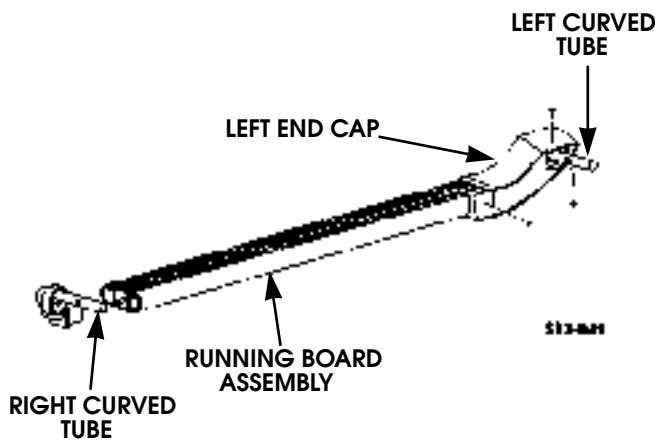

Figure 13-47: Left End Cap Secured to Left Curved Tube
2. Remove screw, nut, and screw securing the left end cap to the left curved tube (Figure 13-47).
- Position right curved tube (with orange plastic bushing) into running board. Ensure right curved tube points toward the side of the running board with the “this side toward frame” decal (Figure 13-47).